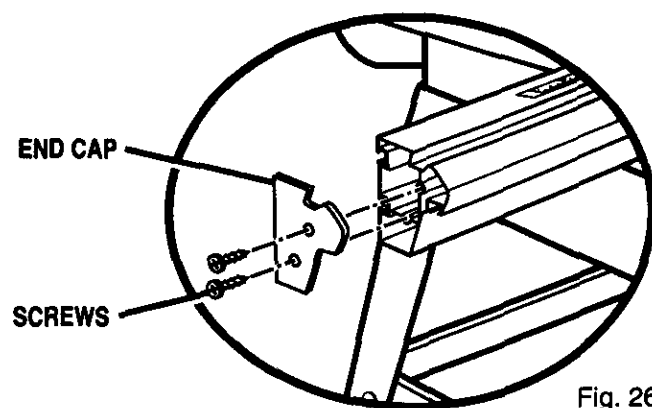

Fig. 26
- Attach the front rail end caps and screws with a phillips screw driver. See Figure 26.